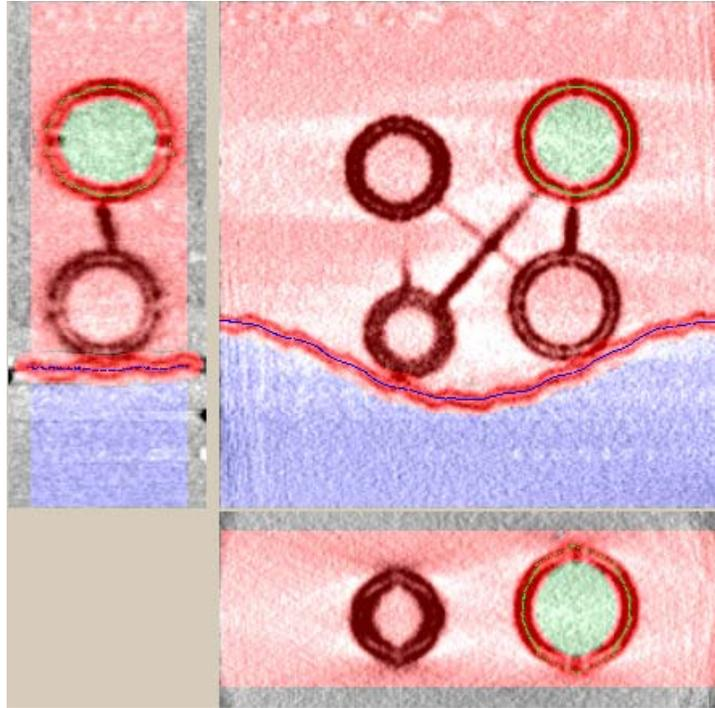

Figure 22: Segmented volume after region mapping.
3. In the **Segmentation** control window, select **Regions > Map**. After some brief calculations, the Visualization window display will change to what is indicated in Figure 22.